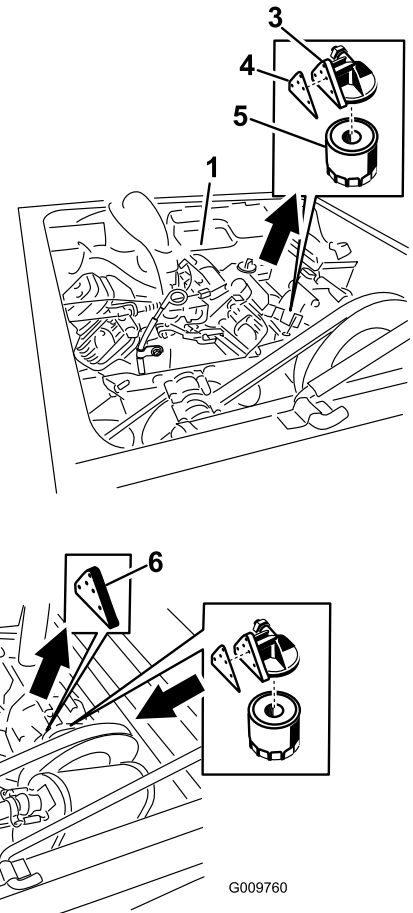

Figure 2
7. Remove the oil filter base/oil pressure switch from the old engine (Figure 2). The gasket does not need to be removed unless it is stuck to the oil filter base.
8. Remove the oil filter adapter from the new engine (Figure 2). The gasket does not need to be removed unless it is stuck to the oil filter adapter.
9. Install the oil filter base/oil pressure switch to the new engine (Figure 2). Use the gasket mounted on the new engine.